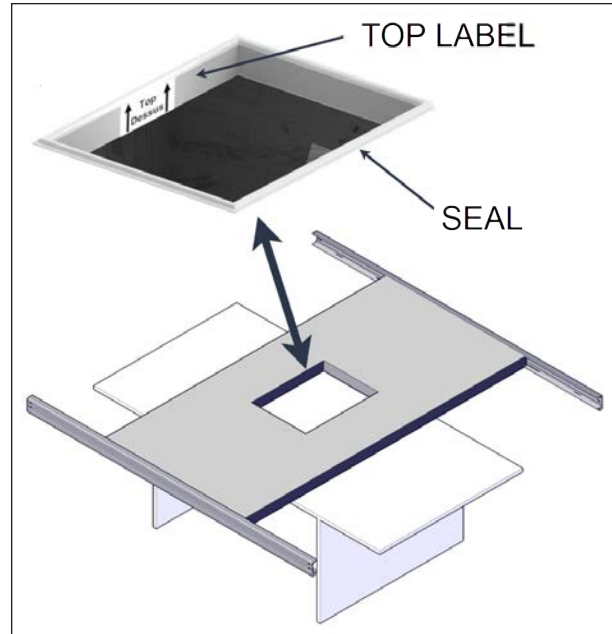

FIGURE 19: C-CHANNEL INSTALLATION
1. Install the center cover panel, with an opening in the center, on the mounting table. Make sure the seal around the escape hatch opening is on top and the top label is properly oriented, see Figure 19 and Figure 20.
2. Install the long C-Channels, 94 9/16". (240 cm) on the center panel, see Figure 19.